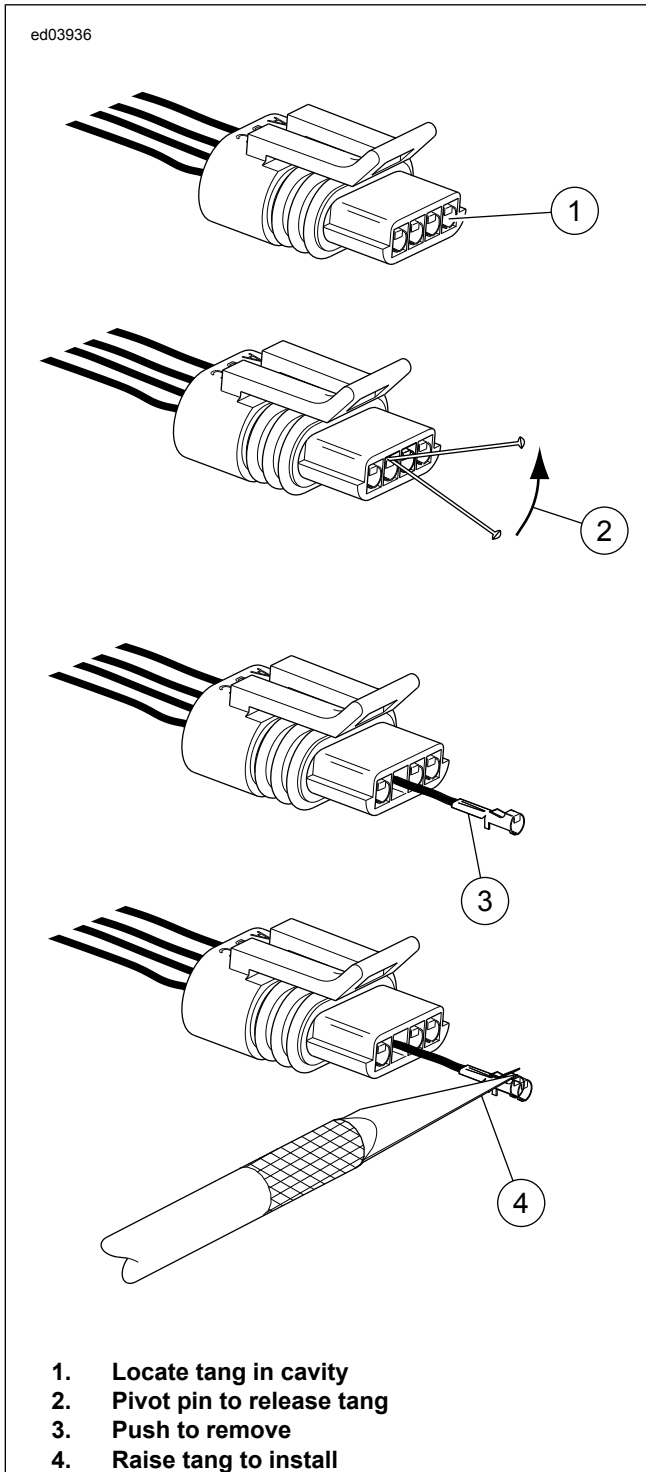

Figure B-12. Delphi 150.2 Metri-Pack Sealed Connector: Pull-to-Seat
1. See Figure B-12. Find the locking tang in the mating end of the connector.